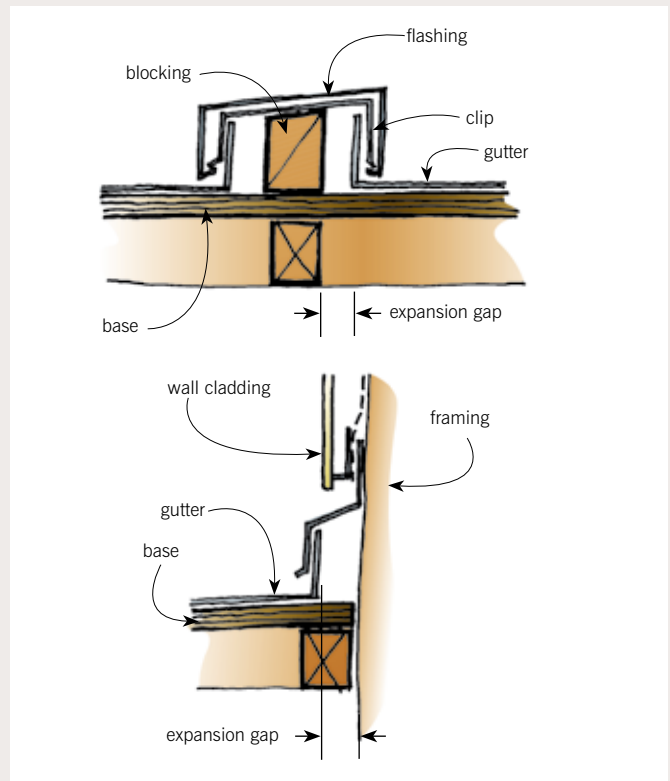

Figure 2: Allowing for movement.
- An allowance should be made for an expansion at the high end (see Figure 2).